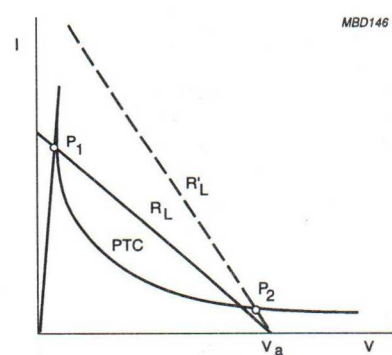

Fig. 9 PTC thermistor in series with a load showing the influence of the load resistance.
3. The load resistance decreases (see Fig.9).